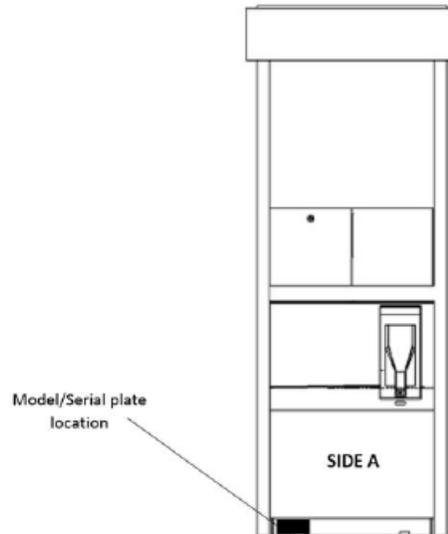

Figure 50
- c) You are looking at SIDE A. See Figure 50